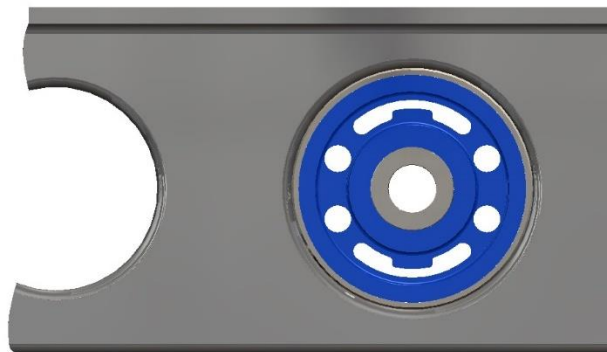

Fig 4 Note timing of the voids
8. Using threaded rod a sleeve and receiver pull the new bushes into place Note: the orientation of the voids is important the bush has the marking "UP" stamped into the face use this and Fig 4 the orientate correctly